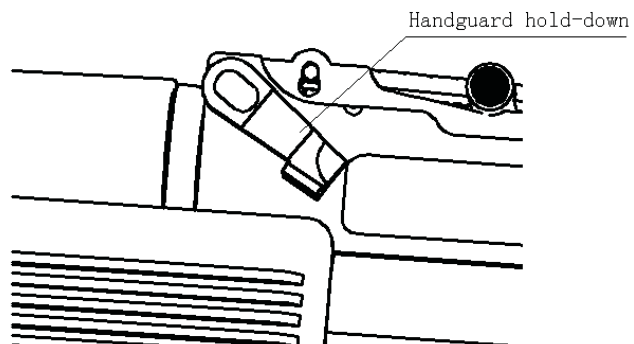

Fig. 20 Handguard Hold-down in Position Where Upper Handguard Assembly Is Held Firmly
4.2.1. Following the reassembly of the regulator, regulator dial and piston, fit on the upper handguard assembly and its hold-down. Then turn the hold-down handle downward to have the hold-down arc face hold the handguard firmly (see Fig.20).